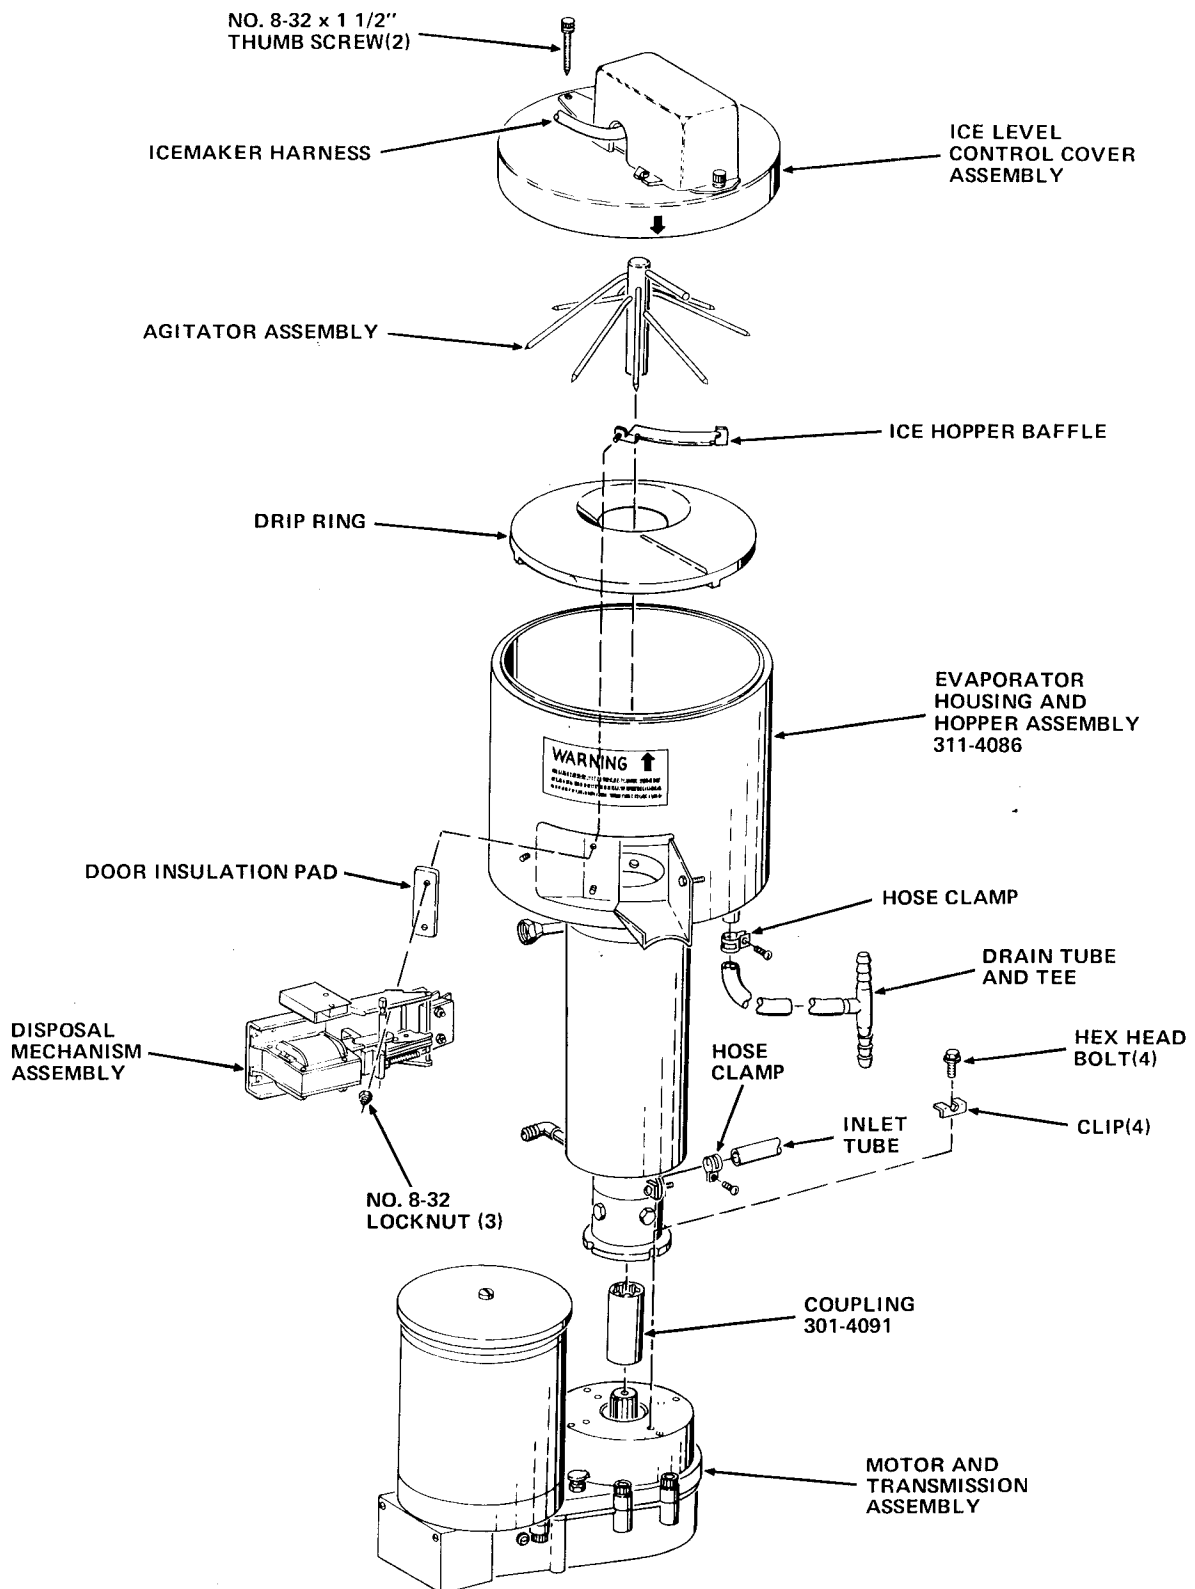

FIGURE III-1
6. **Remove and retain two No.8-32 x 1 1/2" Thumb Screws and the Ice Level Control Cover Assembly from the Icemaker Assembly. See Figure III-1.**
1. Install the Coupling, Part Number 301-4091, included in the Kit, on the Transmission output Shaft. See Figure III-1.